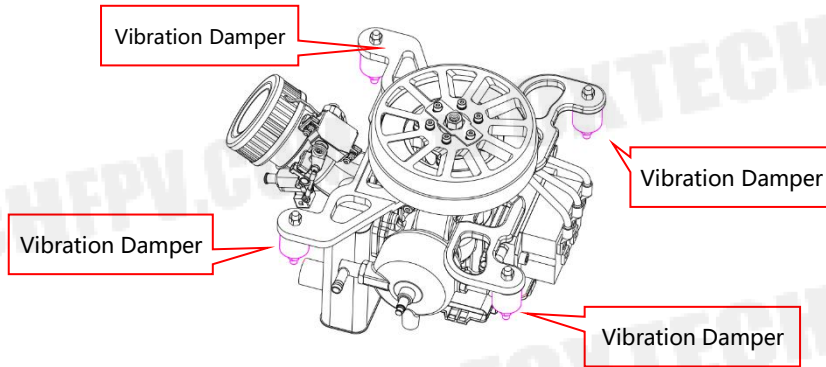

Fig. 4
3.1 Install the hybrid system to the appropriate position of UAV. The damping pad is connected with the aircraft mounting mount, as shown in Figure 4 below: